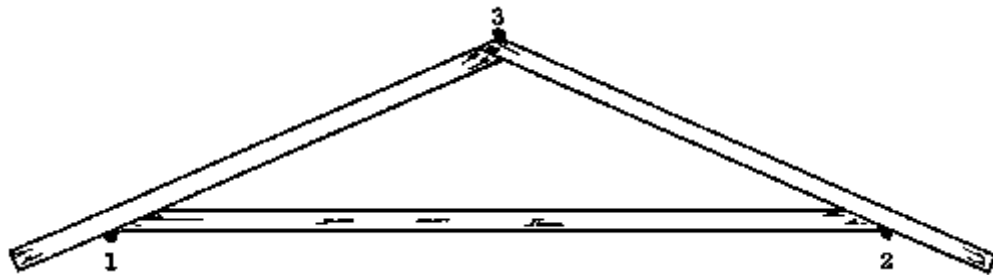

Fig. 2
- Cut the rafter-to-tie beam joint, and the ridge joint (Fig. 2).